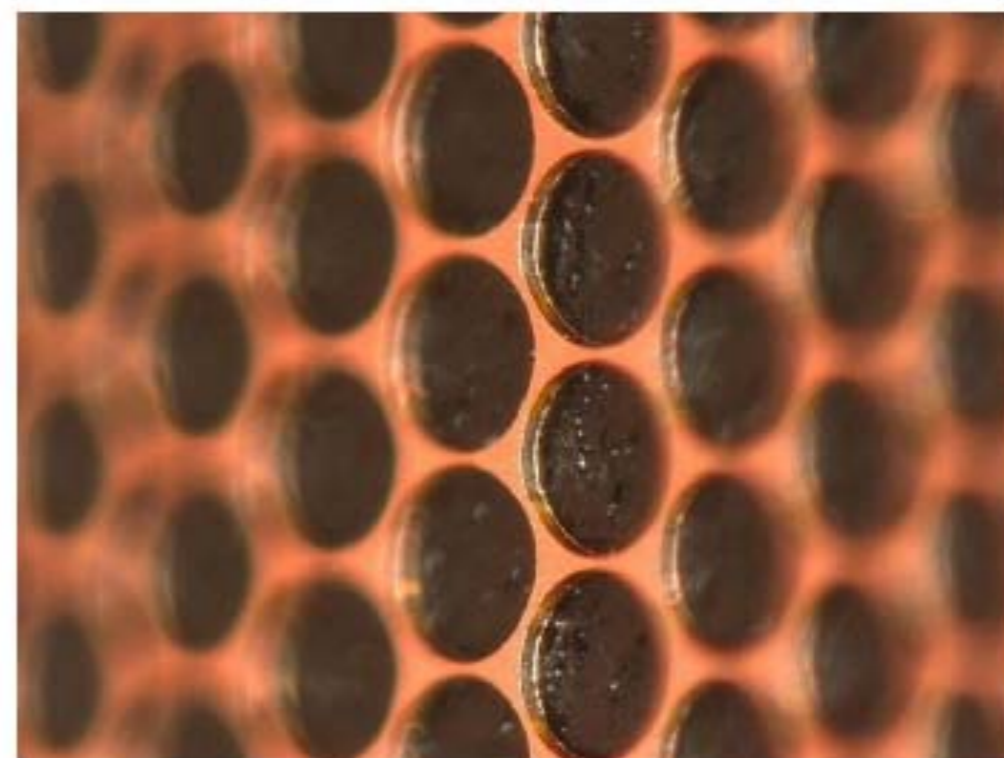

Fig 8. Surface of F-side
- The rim didn't break and maintained the fine structure. (Fig.8)